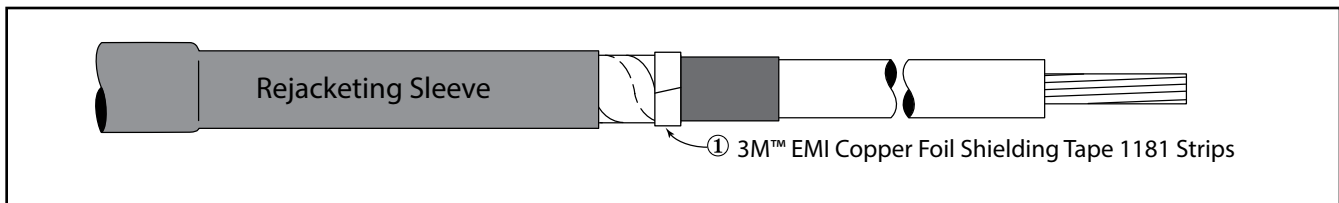

Figure 10
5.2 Secure cable copper tape shield ends with 3M™ EMI Copper Foil Shielding Tape 1181 Strips (*Figure 10*).